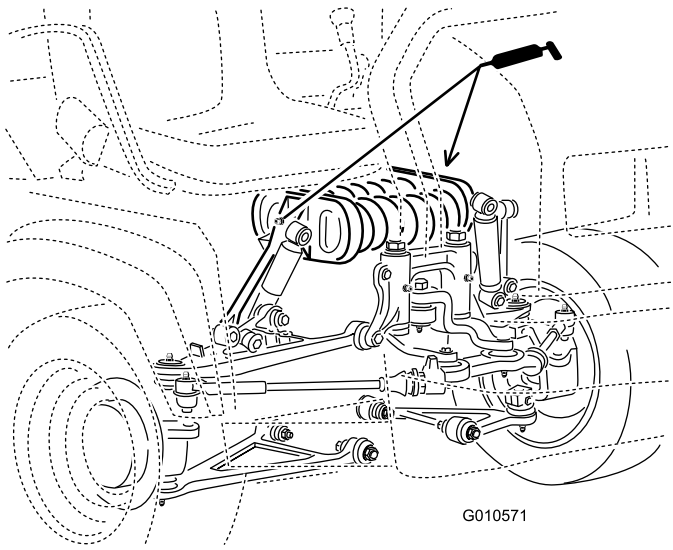

Figure 31
- Spring tower (2) (Figure 31)